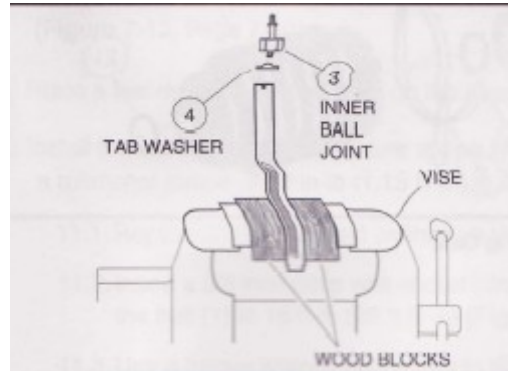

Figure 7-11 Secure Rack in Vise
13. If the inner ball joint (3) is excessively worn, remove the ball joint and tab washer (4) from the rack by securing the rack in a vise (Figure 7-11). Using wood blocks between the rack and the jaws of the vise to protect the rack from damage loosen and remove the inner ball joint with a wrench.
1. Install a new tab washer (4) and an inner ball joint (3) (Figure 7-11). Install the ball joint onto the rack by securing the rack in a vise using wood blocks between the rack and the jaws of the vise to protect the rack from damage. Tighten the ball joint to 60 ft-lb (81 Nm).